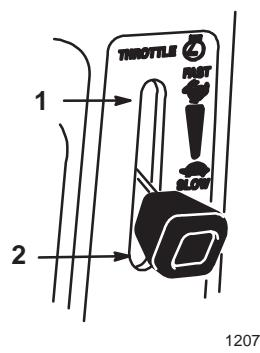

Figure 5
5. Move throttle lever to ‘‘FAST’’ (Fig. 5).
7. After the engine starts, move the choke lever to "OFF" (Fig. 5). If the engine stalls or hesitates, move the choke lever back to "ON" for a few seconds. Then move the throttle lever to desired setting. Repeat this as required.
1. Move the throttle lever to “SLOW” (Fig. 5).